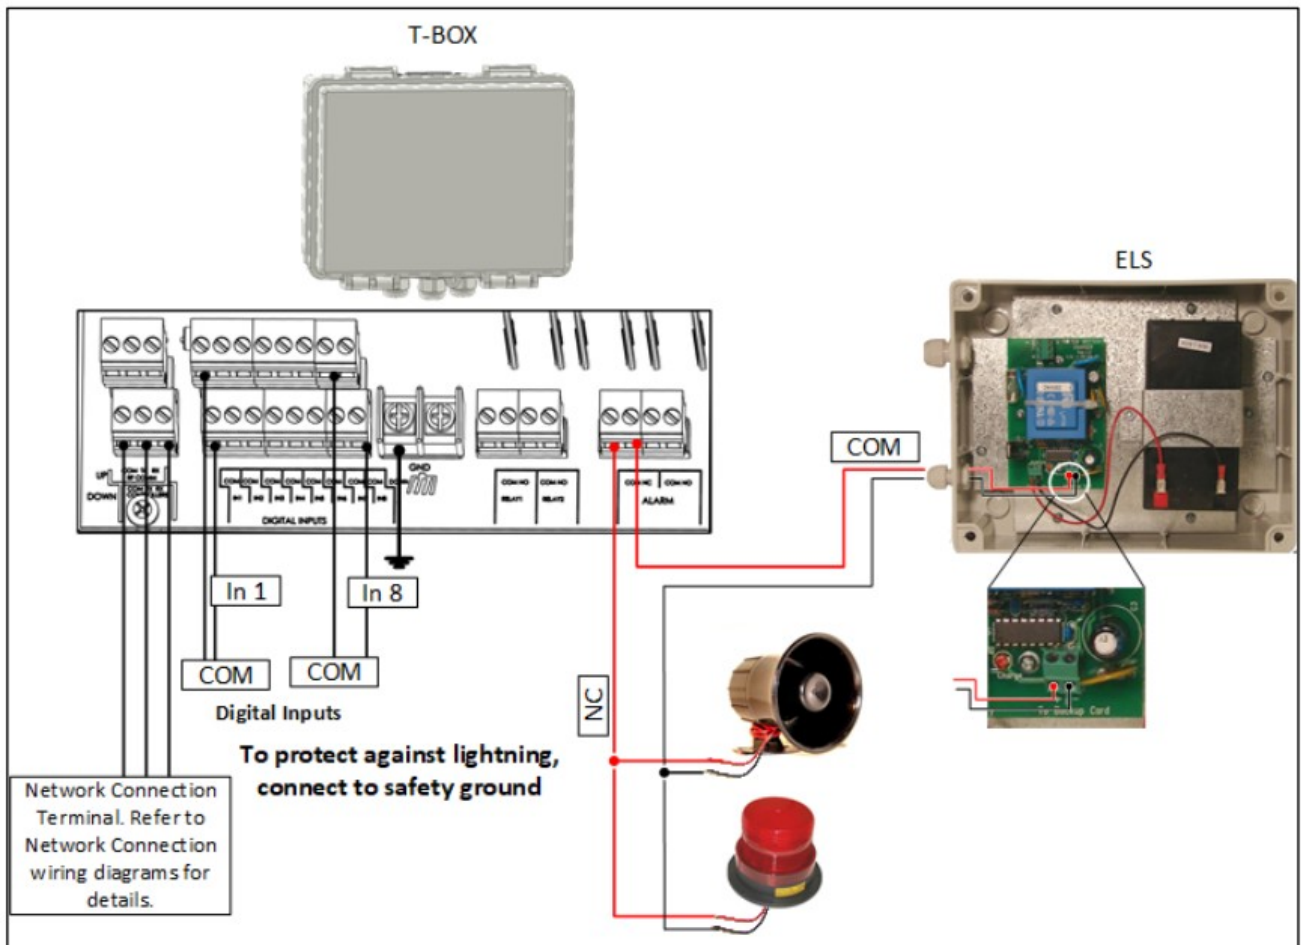

Figure 18: External Communication Box Wiring Diagram with ELS
If required, connect the T-Box to external devices and an ELS system (Figure 18).
2. Wire the devices as shown in Figure 18.